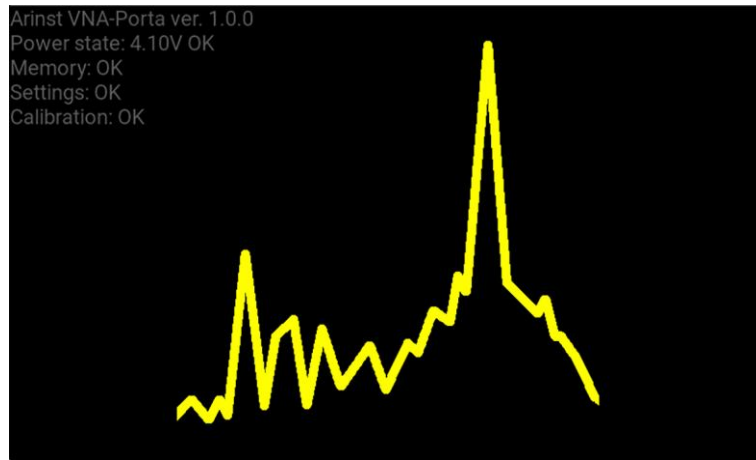

Figure 13.1 - Loading the device after turning on
13.1. Turn on the device. While the device is loading, tap and hold the graph image on the screen for a few seconds (Figure 13.1).